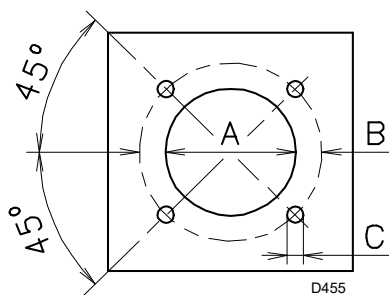

Fig. 11
Pierce the closing plate of the combustion chamber, as in Fig. 11.
- Fit the entire burner onto the boiler hole prepared previously, as in Fig. 11, and fasten with the screws supplied.